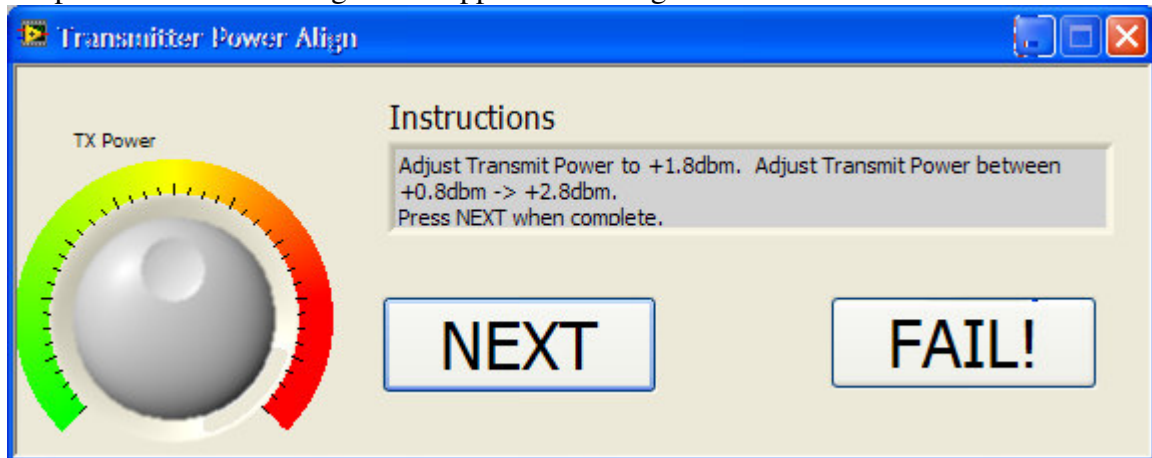

Figure 5-4 Screenshot of the transmitter aligning procedure..
- d) A new dialog is opened as shown in Figure 5-4. This dialog instructs the user to align the transmit power for various transmit power configurations. The PCB first sets the transmit power to the default settings for the minimum transmit power setting. The user then needs to measure the transmit power. If the power is not